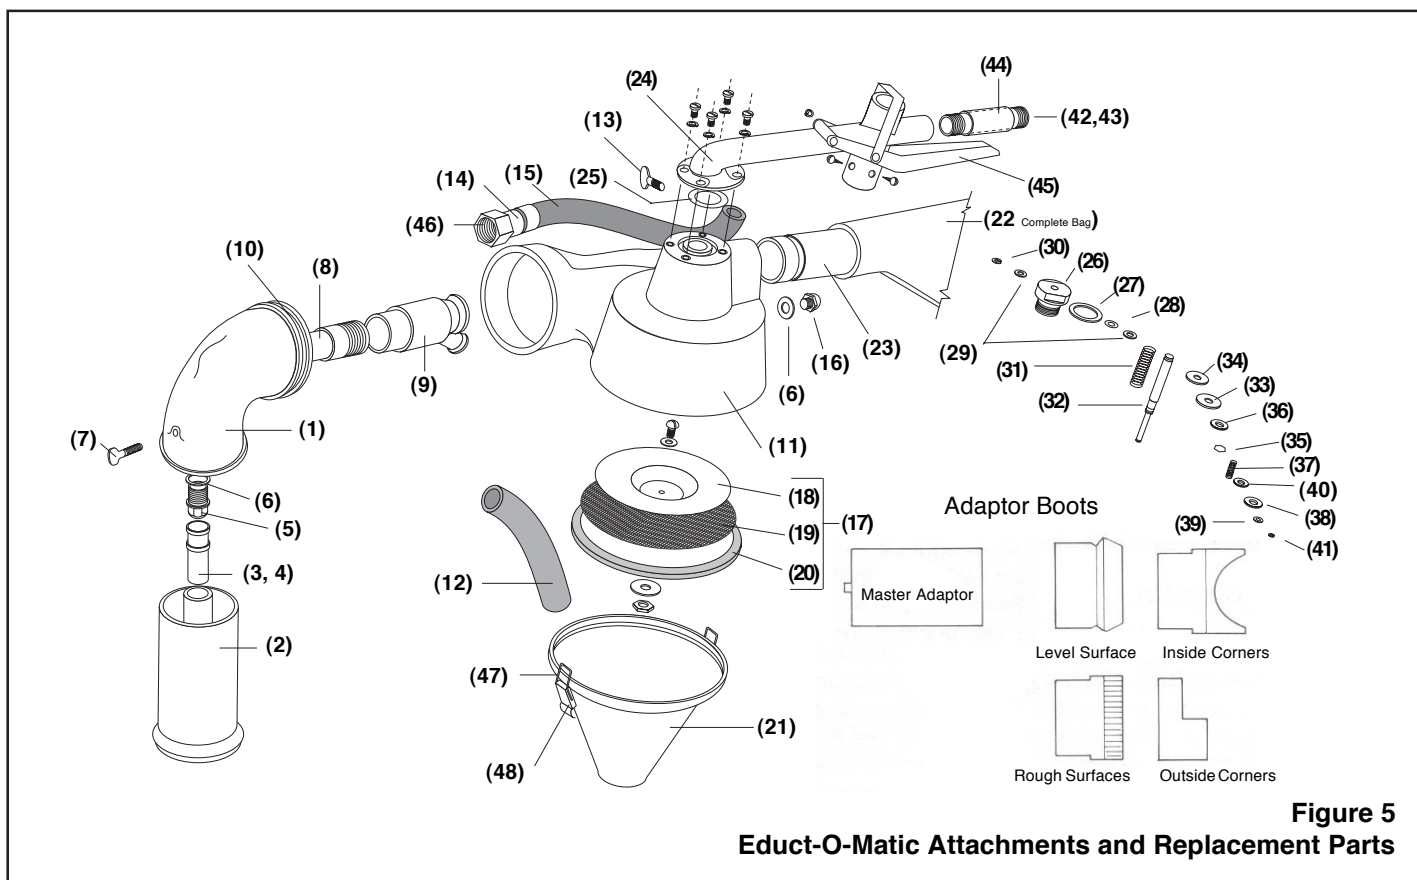

Figure 5
2.2 Adaptor Boots. The adaptor boots available for the Educt-O-Matic are shown in figure 5. If you ordered your unit with only the standard adaptor, you may order the others separately, or as a set. (See paragraph 5.0) The standard and master adaptors fit onto the blast head and are held in place by friction. The four special boots fit the master adaptor only. They too are held in place by friction. Make sure that the boots are properly seated before beginning to blast.
5.0 ATTACHMENTS (FIGURE 5).
5.1 Replacement Parts (figure 5).